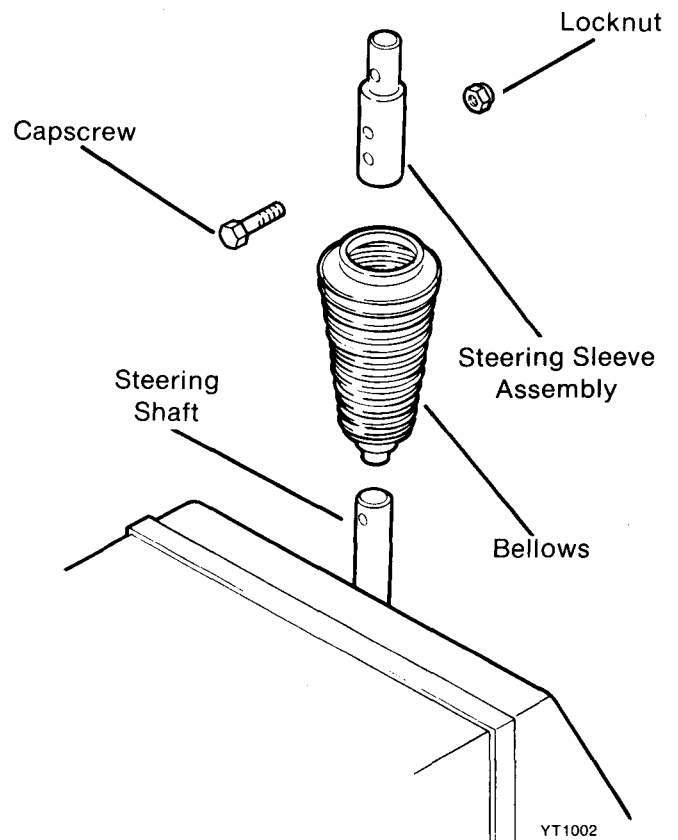

FIG. 30
- F. Compress steering shaft bellows to expose capscrew through steering sleeve assembly. (Fig. 30) Remove capscrew and locknut. Lift steering wheel assembly and bellows off steering shaft.
- A. Compress bellows on steering shaft to expose capscrew through sleeve assembly. (Fig. 30)